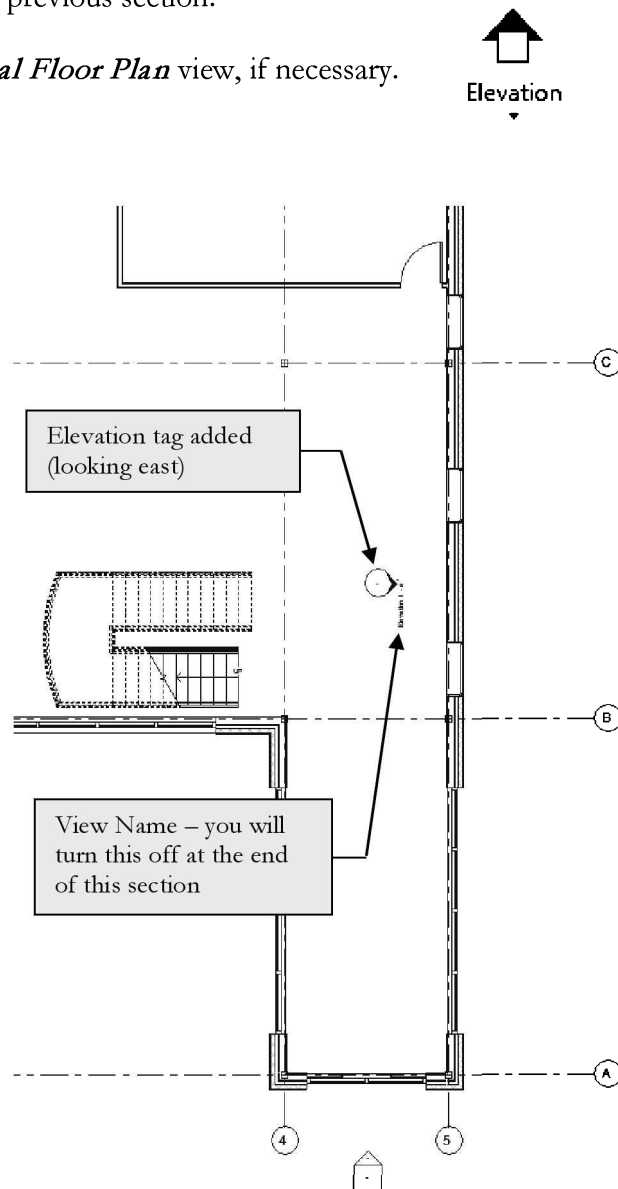

FIGURE 10-2.1 Level 1: Elevation tag added; Lobby / Entry
4. Select *Elevation: Interior Elevation* and then place an elevation tag looking East (i.e., to the right), as shown (Figure 10-2.1).